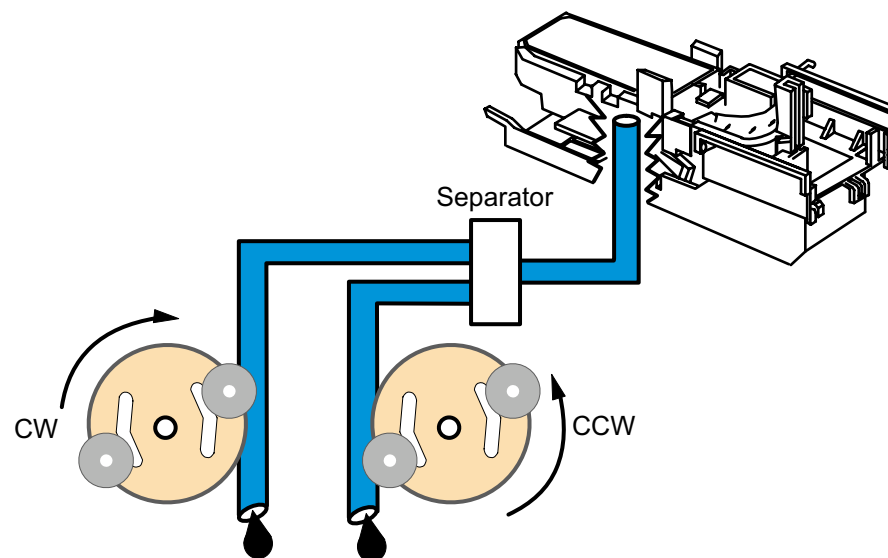

Figure 2-9. Ink Absorption Process
4. Once the drive is transmitted to the pressure roller (right), all parts used to drive the pump begin to act. The Stylus Color 980 has the right and left pressure rollers. However, since the black and color heads are included in one unit, the absorption tube is split in the middle so the 2 pumps can absorb ink in the printhead. See Figure 2-9 which explains the ink absorption process.